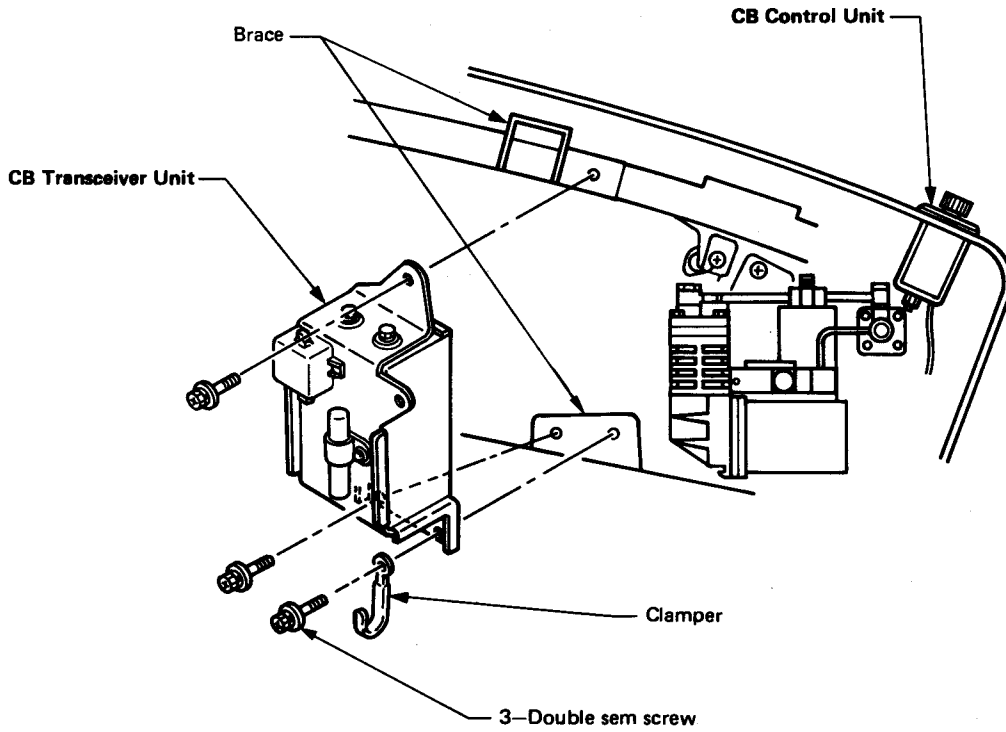

Fig. 1
1. (1) As shown in Fig. 1, attach the CB unit to the brace with the three double-sem bolts.